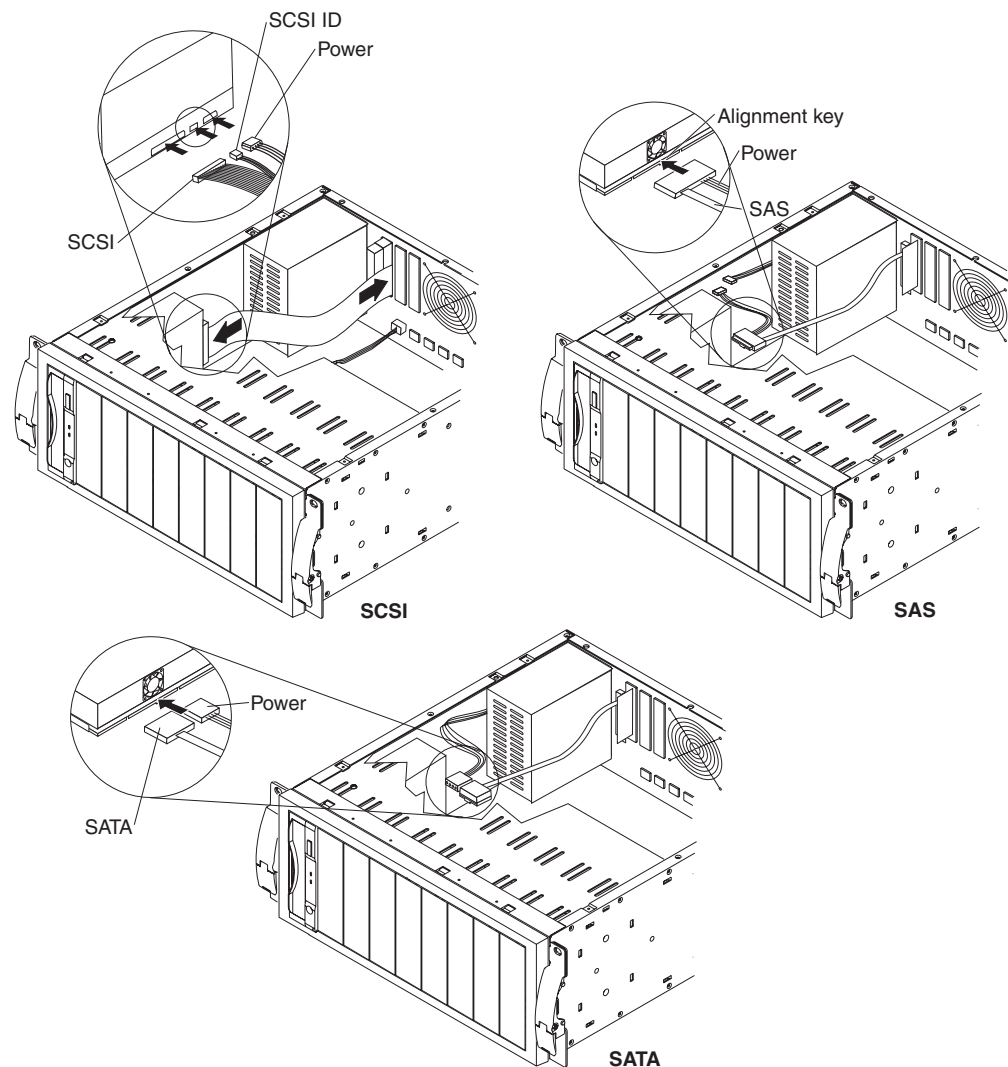

Figure 5. Internal cable connections using SCSI and SAS option kits (without SCSI ID converter)
8. Connect the cables to the rear of the drive. For SCSI and SAS option kits, see Figure 5. For USB option kits, see Figure 7 on page 15.